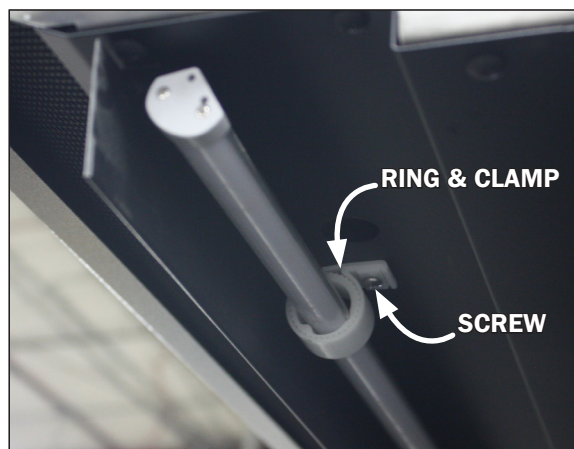

Fig. 13 LED light & ring/clamp
2. Remove the screws from the light clamps (Fig. 13) while keeping hold of the light. Once the screws are removed the light rod will come away from the case with the clamps still holding to the light.